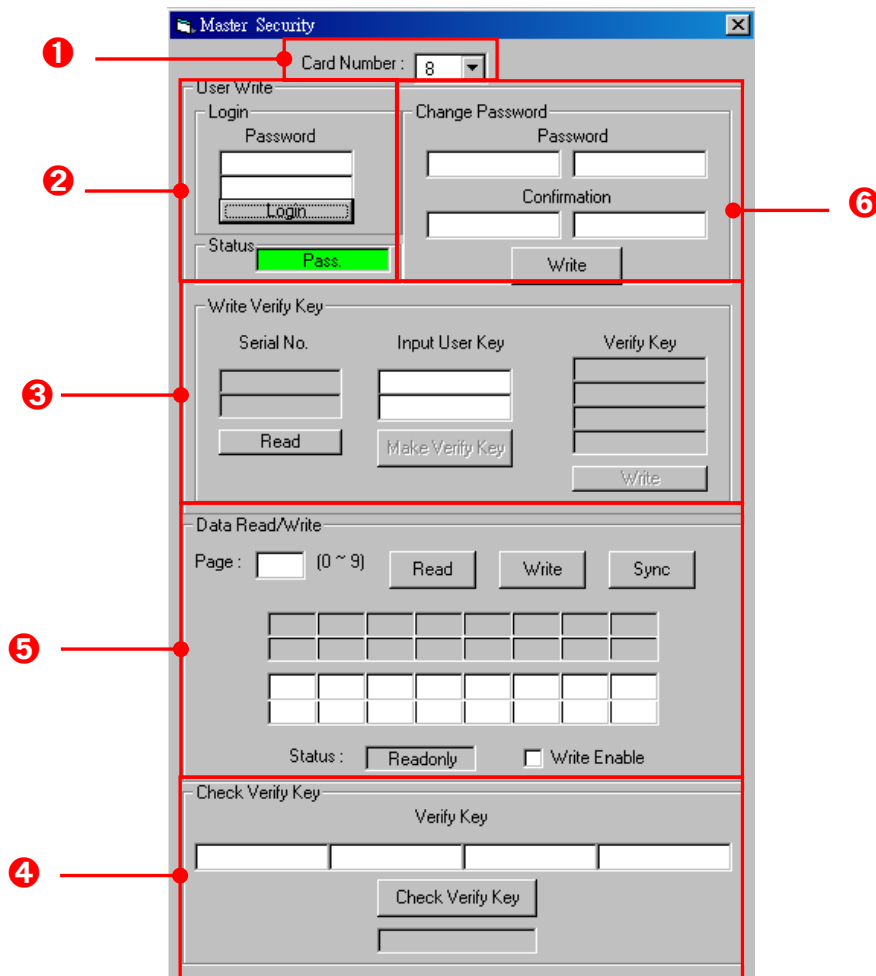
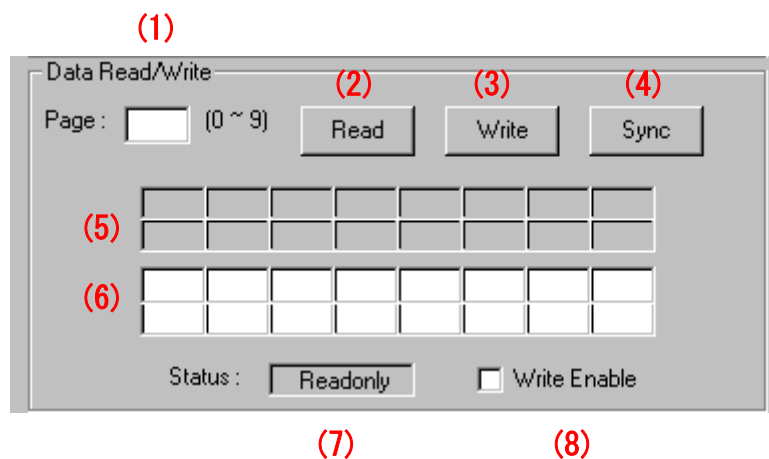

Figure 3.13 Open Master Security interface after user login.
Figure 3.14 Description of master security block ⑤ functions
(If login is successful, status will display "Pass" and grant access to the functions in Blocks ❸, ❺ and ❻ in Figure 3.13; if not, status will display "Failed", and user must re-login.)
- ❶ Card ID of DMCNET motion card.
- ❷ User login and status display field.
- ❸ Generate verify key.
Step 3: Click on the "Write" button to write the generated Verify Key. (If write is successful, block ❷ will display "Done.". "Failed" is displayed otherwise)
- ❹ Verify key confirmation field and status display. Enter the 4 sets of Verify Key generated above into the 4 fields of Check Verify Key then click on "Check Verify Key". (If verification is successful then "Pass" is displayed on the status bar below". "Lock!" is displayed otherwise)
⑤ Data read and write area. (Please see Fig. 3.14 for details)
⑥ Change password field.
Step3: If the two passwords in "Password" and "Confirmation" match, clicking on "Write" will change the password. If the passwords do not match, then block ② will show the error message "Confirmation Error". The change password procedure must now be repeated again.
Below is a more detailed description of block ⑤ in Figure 3.13